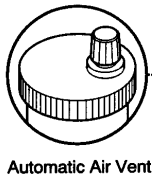

Fig. 37 Automatic Air Vent
5. Open the automatic air vent (Fig. 37). To help purge the primary circuit turn the pump on & off several times by using the On-Off selector switch (Fig. 39).